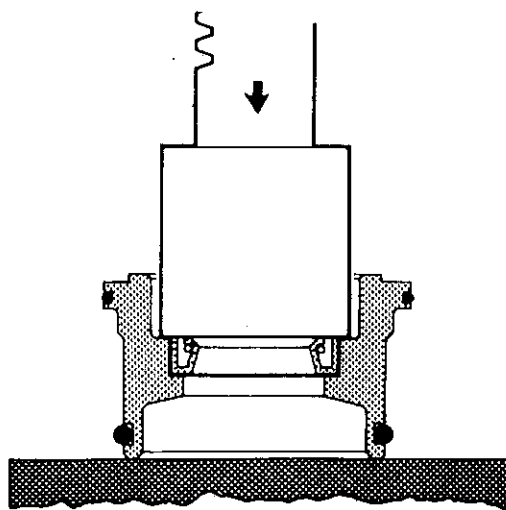

Figure 3.17
6. Install a new drive housing seal (15) and bearing retainer seal (24) on bearing retainer (13). Apply Lithium base general purpose grease to bearing retainer seal.
7. Install a new drive shaft seal (13) in bearing retainer (16). Apply Lithium base general purpose grease to I.D. of seal. See Figure 3.17.